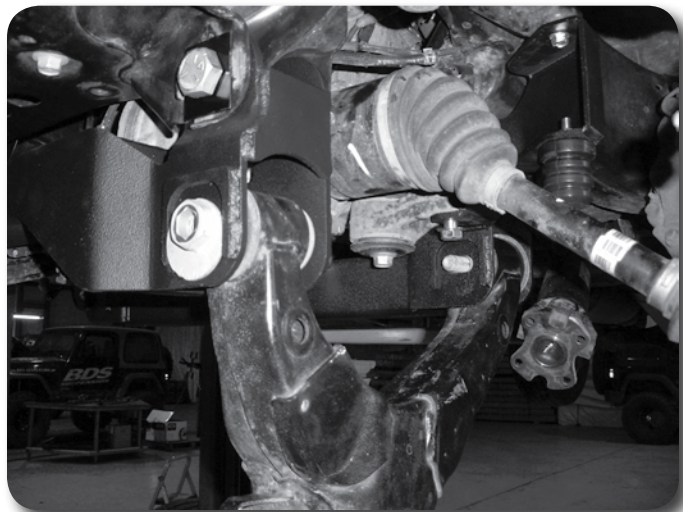

Figure 34
44. Locate and install the factory lower control arms into the new front and rear crossmembers **Figure 34**. Loosely fasten the control arms with the factory cam bolts. The front cam bolts run from front to rear and the rear cam bolts run from rear to front. Thread the cam bolts just enough to seat the cams between the cam stops on the crossmembers but do not tighten.